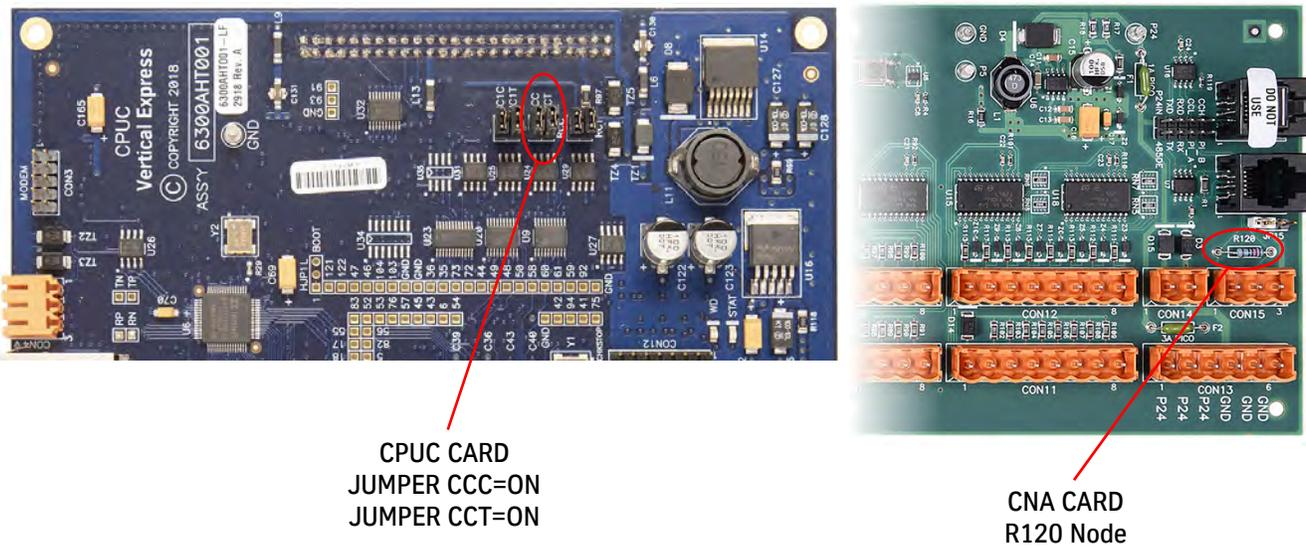

Figure 1 - CPUC and CNA Cards
4. In the controller, verify that the CPUC Card jumpers CCC and CCT are ON. See Figure 1.